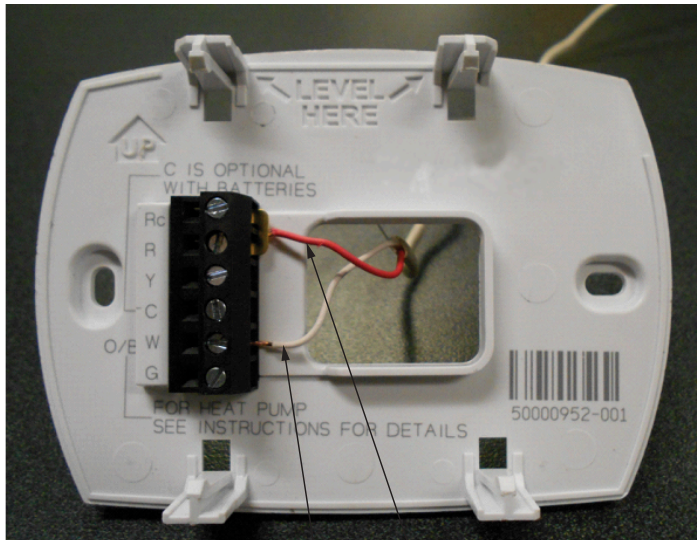

Figure 21.2
2. Connect your thermostat wire to the W and R terminals (see **Figure 21.2**)